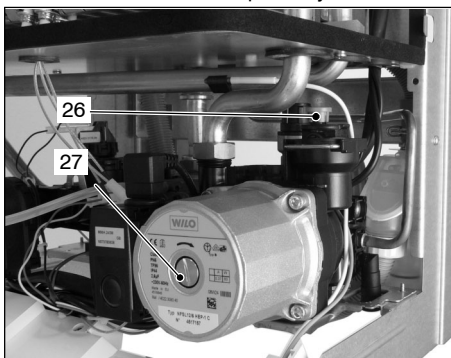

Fig. 7.2
- 3 Unscrew the cap on the automatic air purger valve 26 (Fig. 7.2) one full turn and leave open permanently.
- 6 Purge the air from the pump by unscrewing the pump plug 27 (Fig. 7.2); release the pump shaft by turning in the direction indicated by the arrow on the information plate.